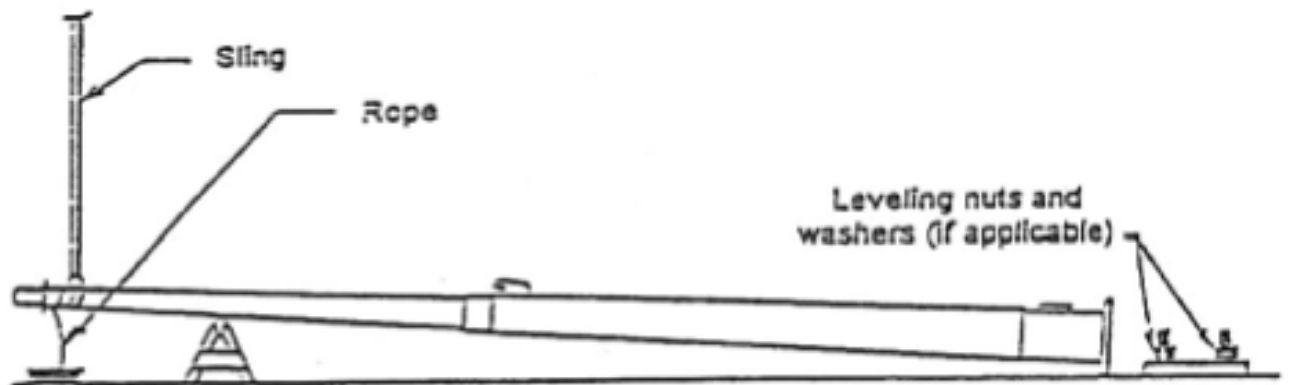

FIGURE 3
4. Attach rope to top of pole (FIG. 3).
5. Attach sling (FIG. 3).